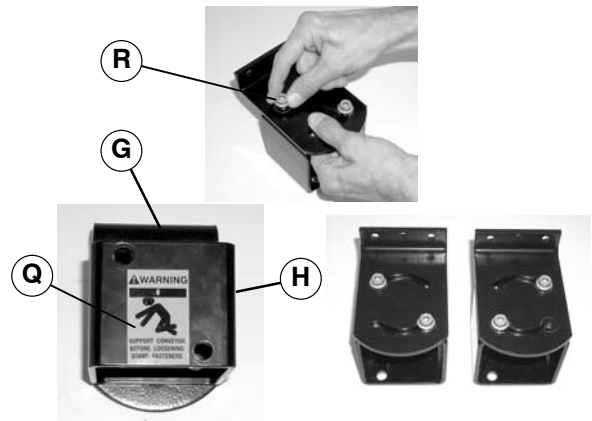

Figure 7
**NOTE:** Leg support bracket (H of Figure 7) must be installed on stand/conveyor mounting bracket(s) (G) with warning label (Q) facing out. When installed, round end of stand/conveyor mounting bracket will be down and warning label will be upright, as shown.
9. Attach leg support bracket (H of Figure 7) to stand/conveyor mounting bracket (G) with two flange socket head screws (R). Do not tighten screws.
10. Repeat step 9 for opposite leg support bracket (H of Figure 7). To ensure proper attachment of stand/conveyor mounting bracket to conveyor, install flange socket head screws (R) in opposite holes on opposite leg support bracket, as shown.